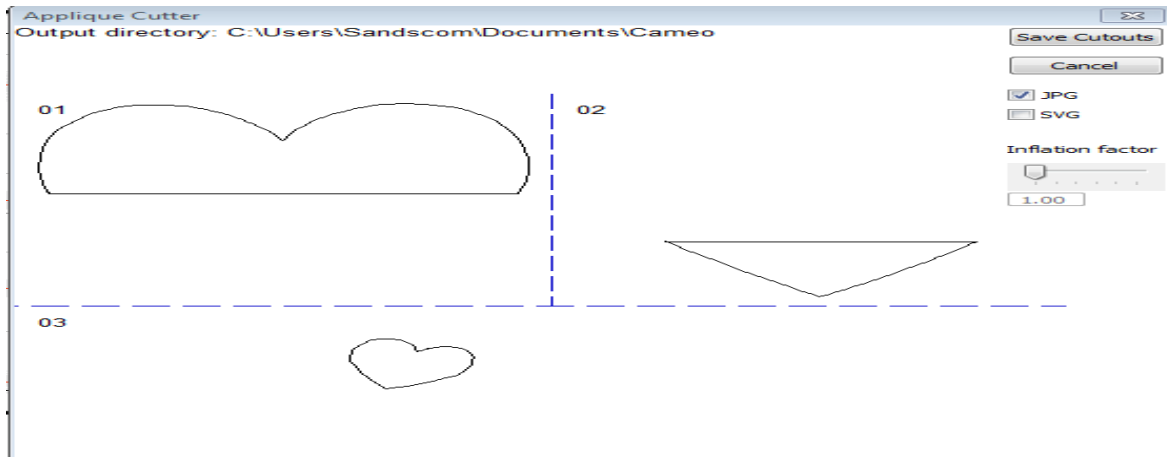

Figure 1 The "Applique Cutout" dialog.
Use this Tools menu command to open a dialog (see Figure 1) which displays the separate dieline outlines for the applique that you wish to cut fabric interiors for, using Cameo Silhouette®, etc. cutting technology. In the example file shown in Fig. 1, there were three separate applique dielines selected and labelled 01 - 03. The output directory for the cut files is displayed at the top left and can be selected from the Applique Cutting option menu.
2. Click on the Applique Cutout toolbar button (or this Tools menu item) to open the dialog shown in Fig. 1.